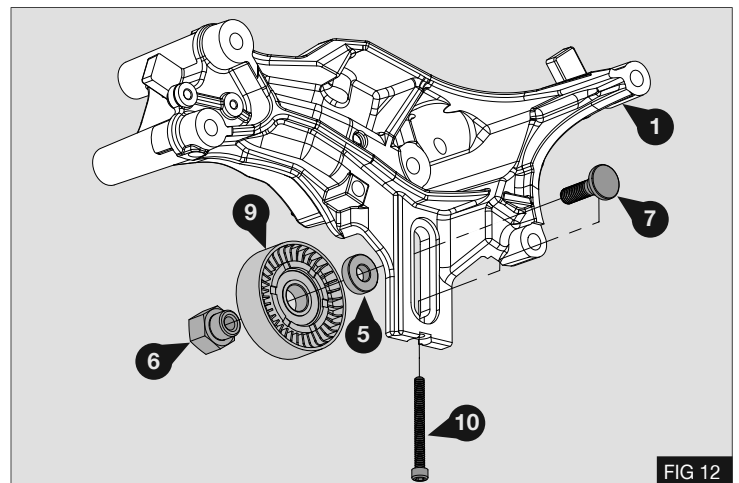

FIG 12
1. Assemble the belt adjusting components (6), (9), (5), (7), (10) onto the bracket (1) - Fig 12